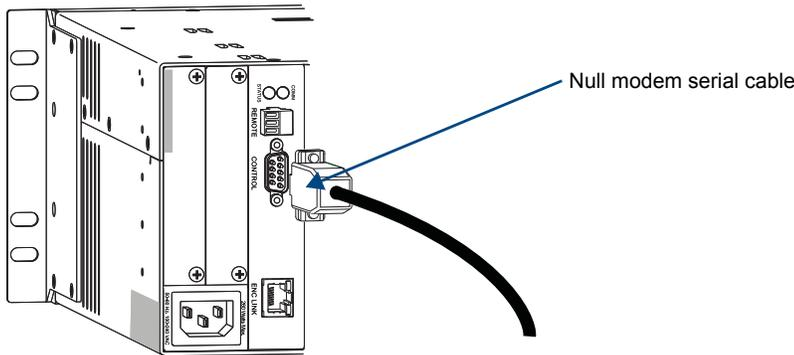

FIG. 14 Attach null modem serial cable to serial port
2. Plug one end of the null modem serial cable into the Control (RS-232) port on the enclosure (FIG. 14).